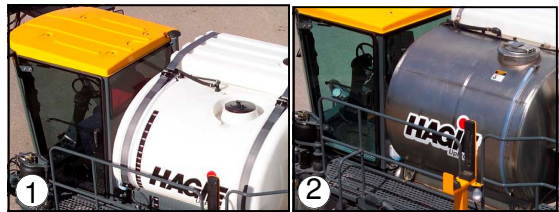

FIG. 4.29-1
SOLUTION TANK– You have the option of the poly tank (fig. 4.29-1, item 1) or the stainless steel tank (fig. 4.29-1, item 2), both are 1000 gallon capacity. Their functions are similar, the only notable difference being the plumbing of the tanks. The poly tank has an eductor type agitation system and the stainless steel tank has a sparge type agitation system.